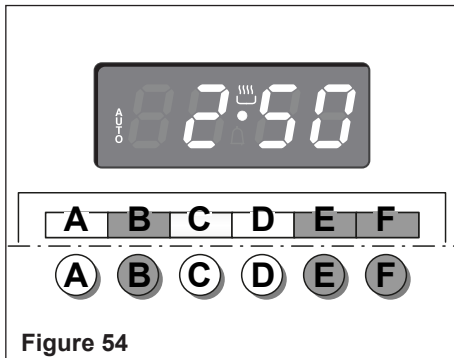

Figure 54
1. Set the length of the cooking period by pushing the “B” button and the “F” button to increase or “E” to decrease if you have passed the desired time (fig. 54). The **AUTO** and the  symbol will illuminate.